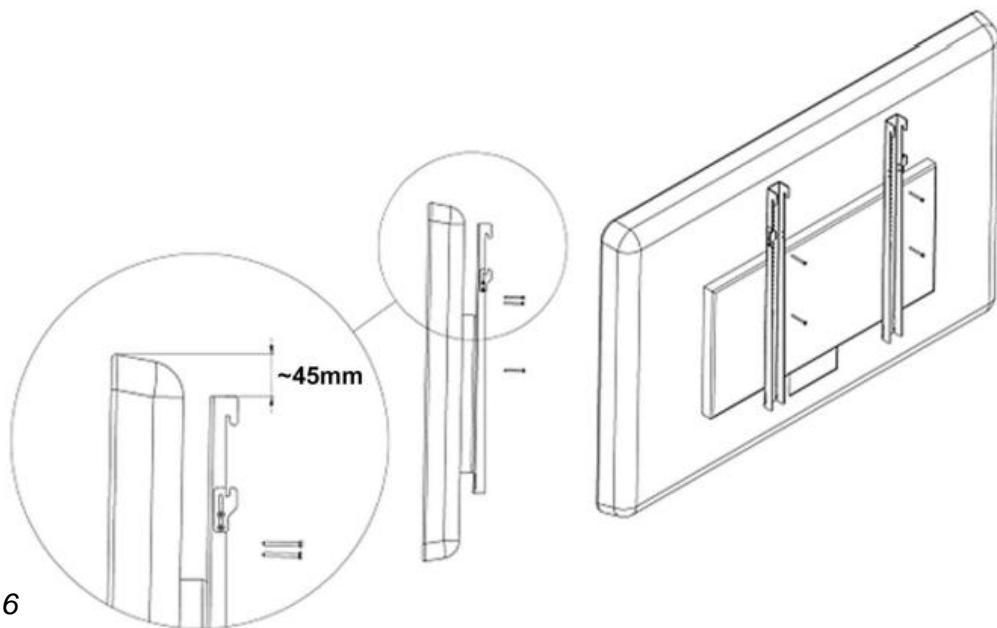

fig. 6
9. Attach the vertical beams to the back of the TV (see fig. 6). You can use the screws provided in the package or select screws in accordance with the TV producer's recommendations. Ensure that the beams are positioned approximately 45 mm below the upper edge of the screen. If needed, use the provided washers